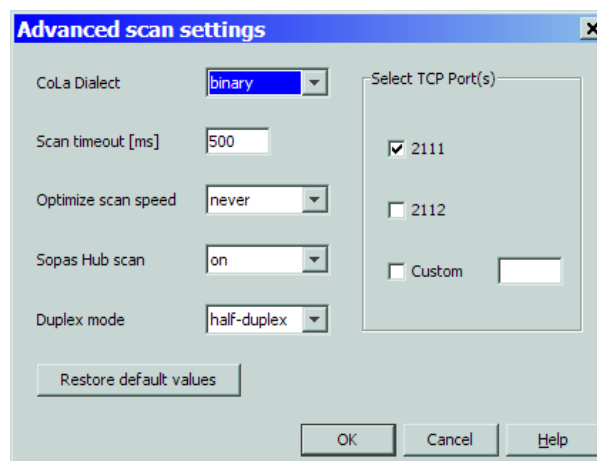

Fig. 4.37: Specifying the TCP port
- ▶ Enter port address "2111" and confirm with "OK" (all other settings and values according to Fig. 4.37).